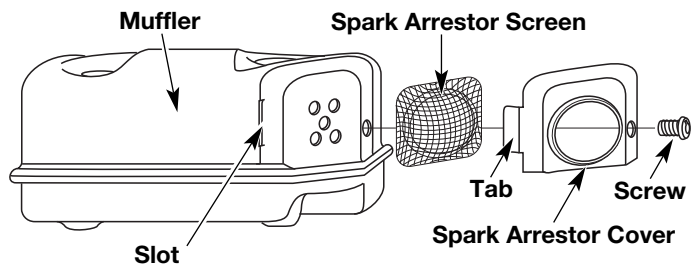

Fig. 24
2. With a flat blade screwdriver or Torx T-20 bit, remove the screw attaching the spark arrestor cover to the muffler (Fig. 24).